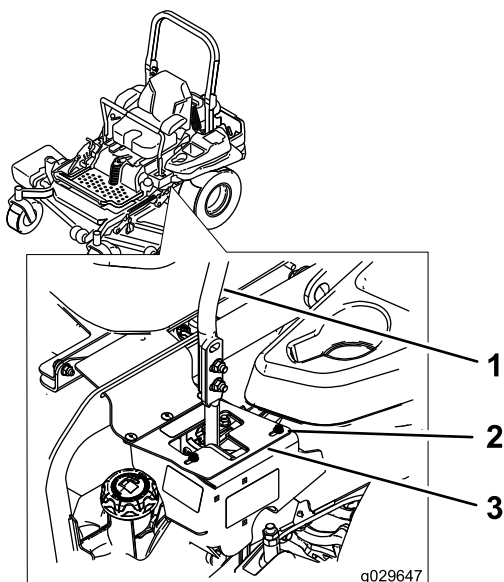

Figure 65
6. If the machine tracks to the right, loosen the bolts and adjust the left stop plate rearward on the left T-slot until the machine tracks straight (Figure 65).
7. If the machine tracks to the left, loosen the bolts and adjust the right stop plate rearward on the right T-slot until the machine tracks straight (Figure 65).
8. Tighten the stop plate (Figure 65).